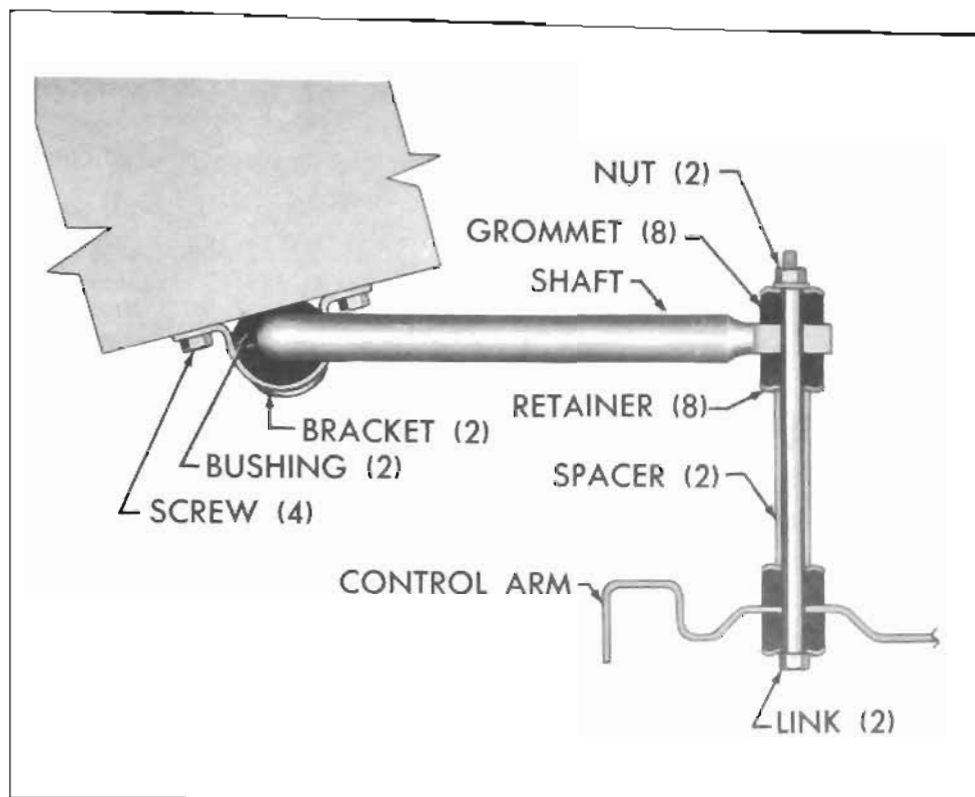

Figure 7-9—Stabilizer and Link
1. Remove nut from upper end of link. Remove link, spacer, retainers and grommets. See Figure 7-9.